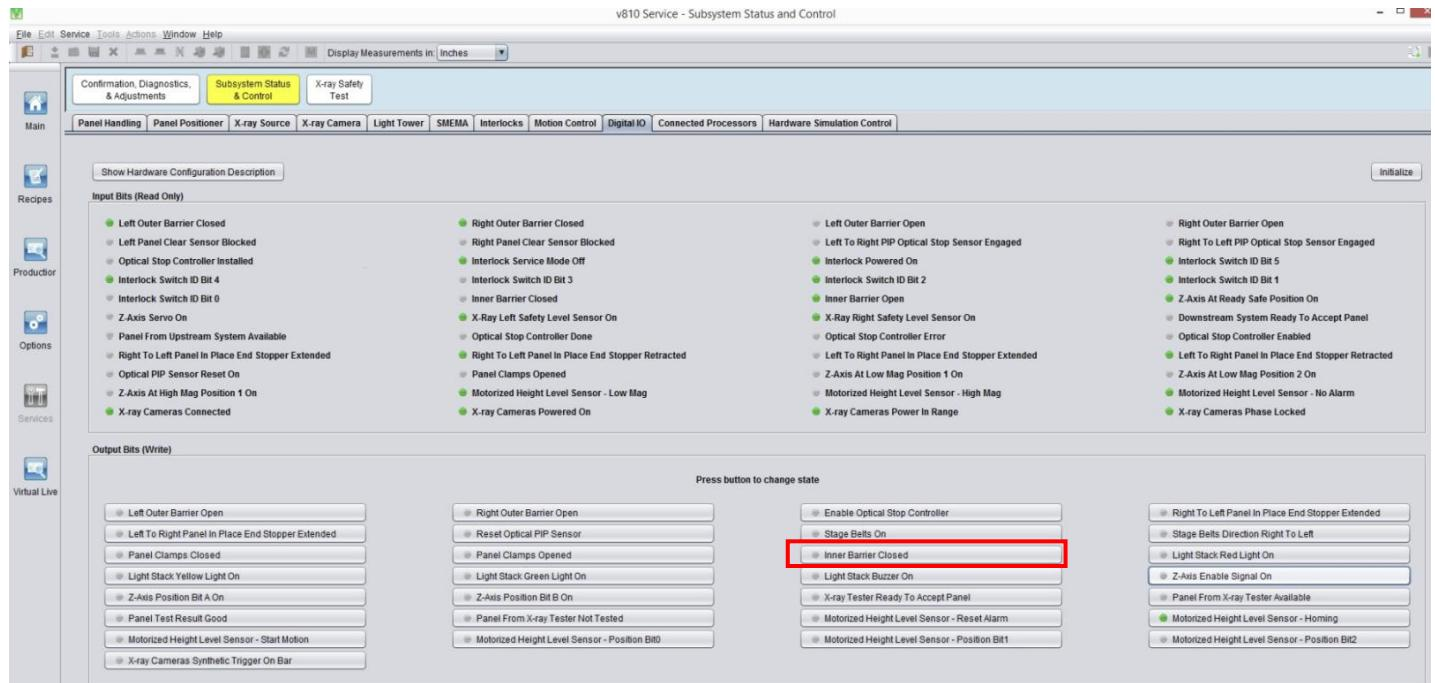

Figure 1 Inner barrier opening
2. Toggle & ensure inner barrier is in “Open” status as shown in Figure 1.